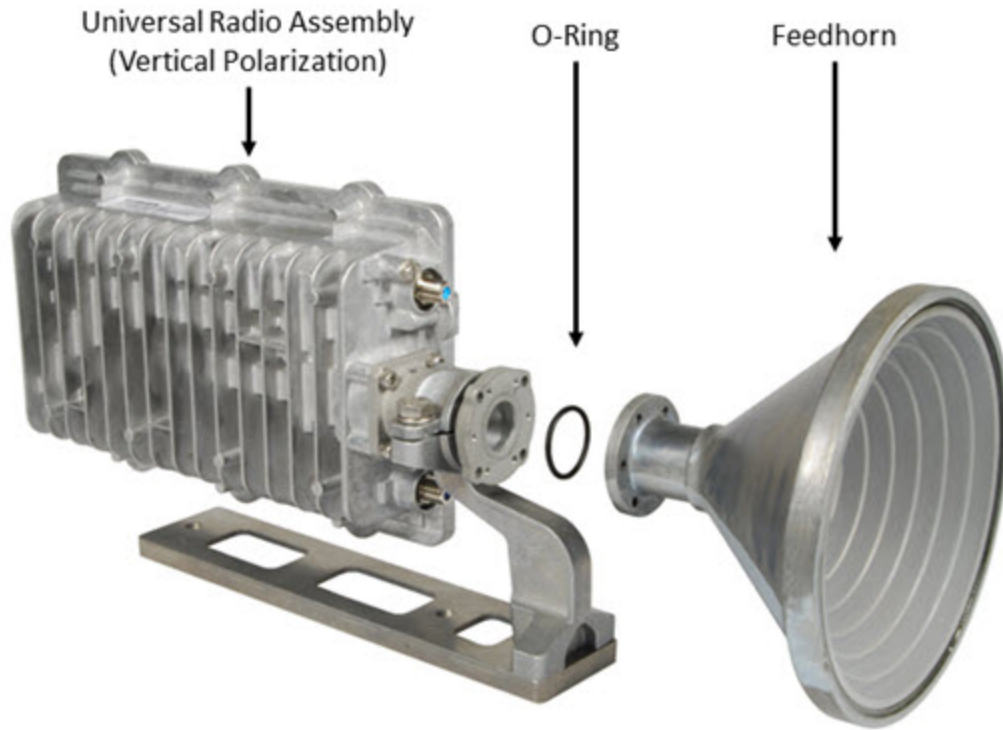

Figure 3: Attaching the feed horn and radio assembly
Use the hardware kit with parts listed in Table 1 on page 8 for the Universal Radio Assembly. To attach the feed horn to the radio assembly, refer to Figure 3 and follow steps 1 through 4.
3. Insert the six socket-head cap screws through the flange on the small end of the feed horn and into the matching flange on the radio assembly as shown in Figure 3.